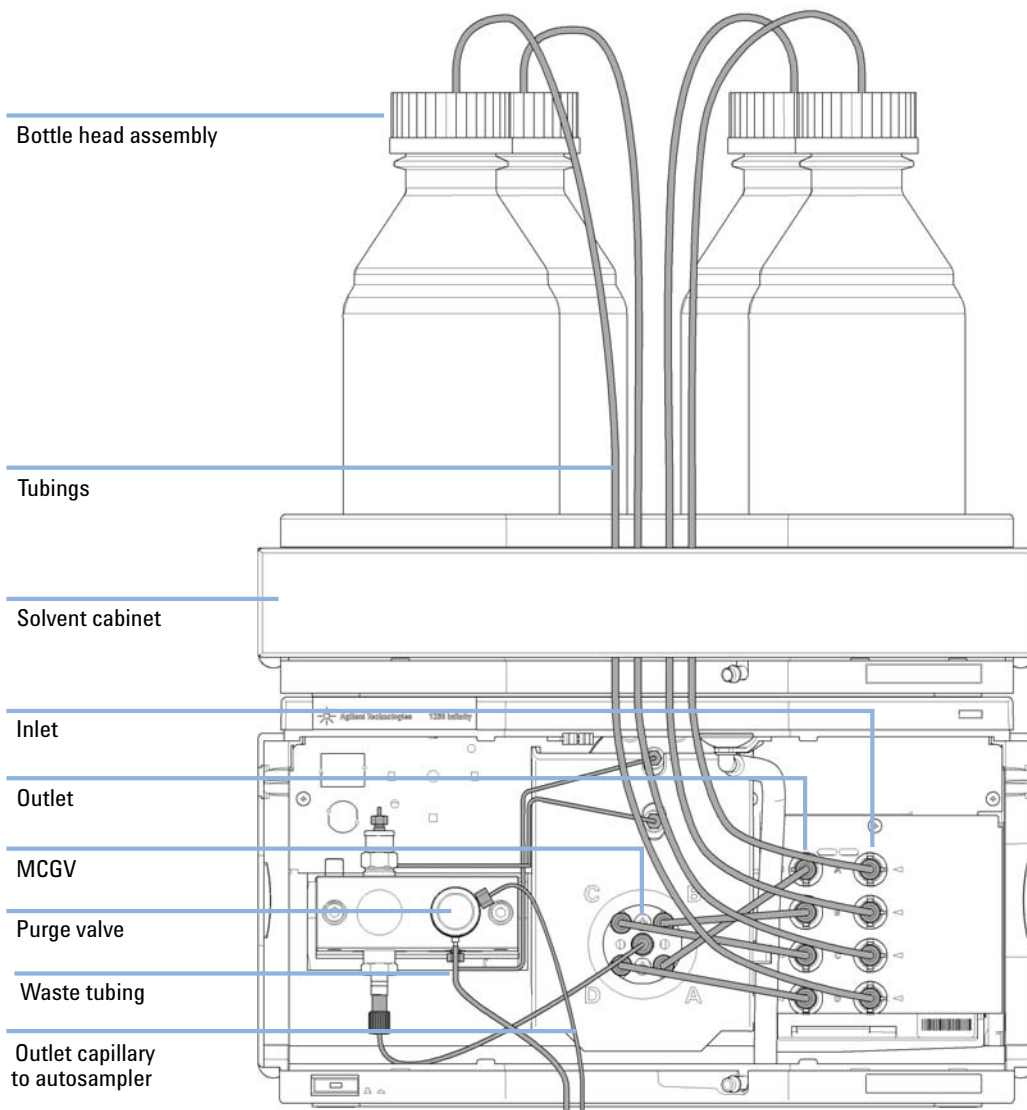

Figure 8 Flow Connections of the Quaternary Pump
- 4 Connect the inlet tubes from the bottle-head assemblies to the inlet connectors A to D at the right hand side of the vacuum degasser, see Figure 8 on page 41. Fix the tubes in the tube clips of the pump.